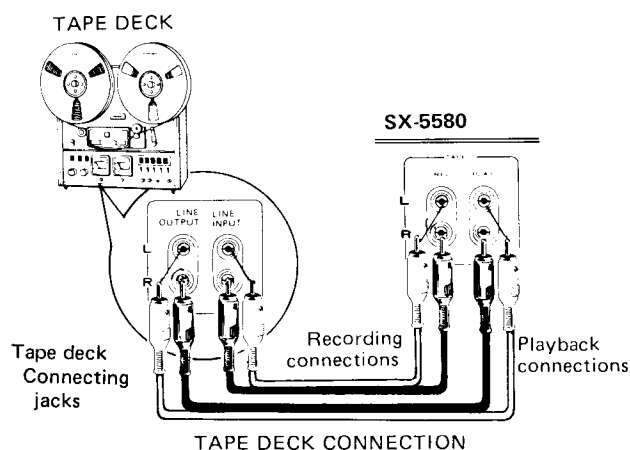
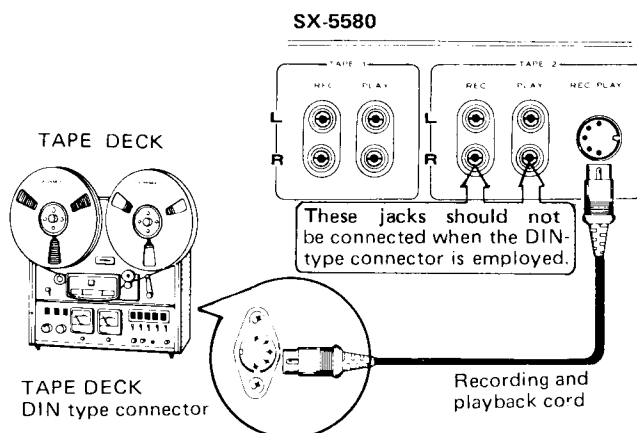

Fig. 4
Fig. 5
Use the connecting cord(s) provided with the tape deck(s) to make the connections (see Fig. 4).
- The receiver output TAPE 1 REC jacks are connected to the recording input jacks (LINE INPUT) of the tape deck as shown in Fig. 4. The upper jack of each pair is the L (left) channel and the lower is the R (right) channel. When the tape deck is provided with a DIN-type connector for recording and playback, use an optional recording/playback cord to make the connection to the TAPE 2 REC/PLAY DIN connector (Fig. 5).